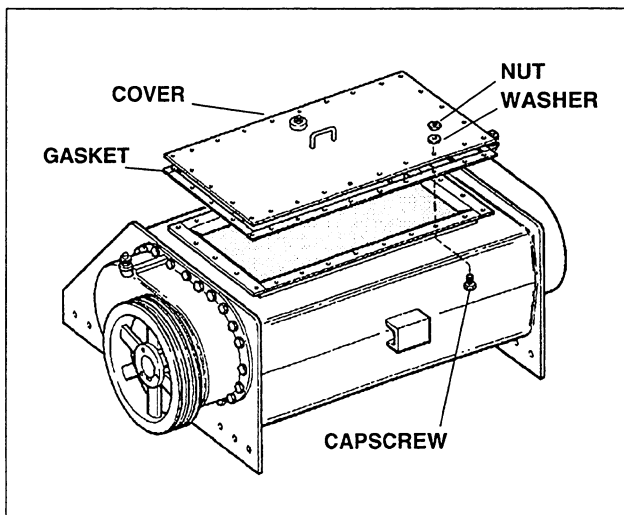

Figure 6-1. Removing Cover
2. Remove nuts, washers, and cover. Refer to Figure 6-1.